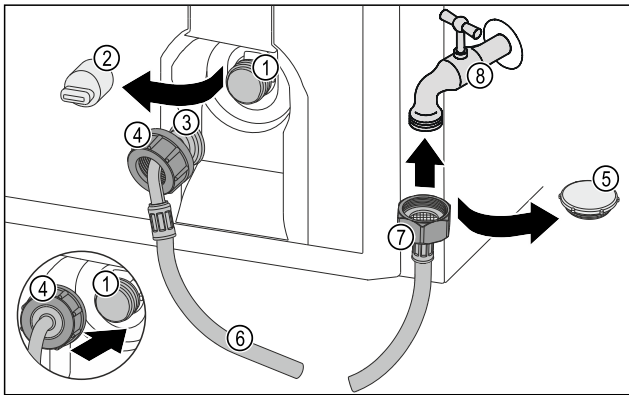

Fig. 13 Example illustration
- ▶ Remove the cover Fig. 13 (2).
- ▶ Push the nut Fig. 13 (4) over the angled hose end Fig. 13 (3) to the end and hold it in place.
- ▶ Carefully place the nut Fig. 13 (4) on the solenoid valve Fig. 13 (1) and hold it in place.
- ▶ Screw the nut Fig. 13 (4) by hand straight onto the thread until it is securely and firmly seated.
- ▶ Remove the closure cap Fig. 13 (5).
- ▶ Place the straight end of the hose Fig. 13 (7) on the tap Fig. 13 (8).
- ▶ Tighten the nut at the straight end of the hose Fig. 13 (7) in a clockwise direction.